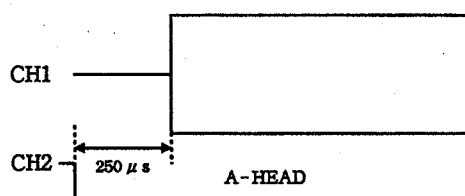

Fig. 2-12
5. So that the time difference between the leading edge of the switching pulse and the envelope edge of the RF output signal is 250 μ sec (See Fig. 2-12), adjust R51 (See Fig. 2-20) on the SERVO PCB.